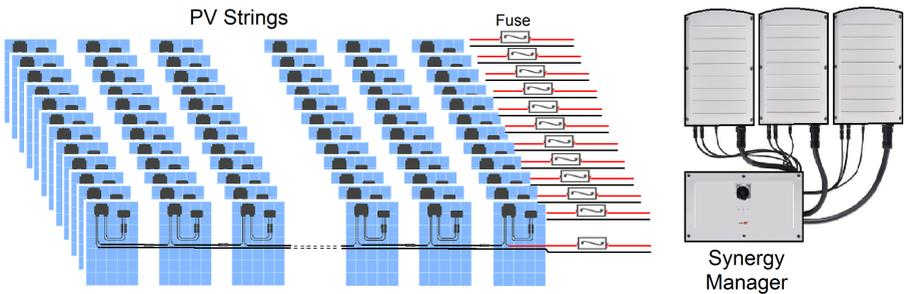
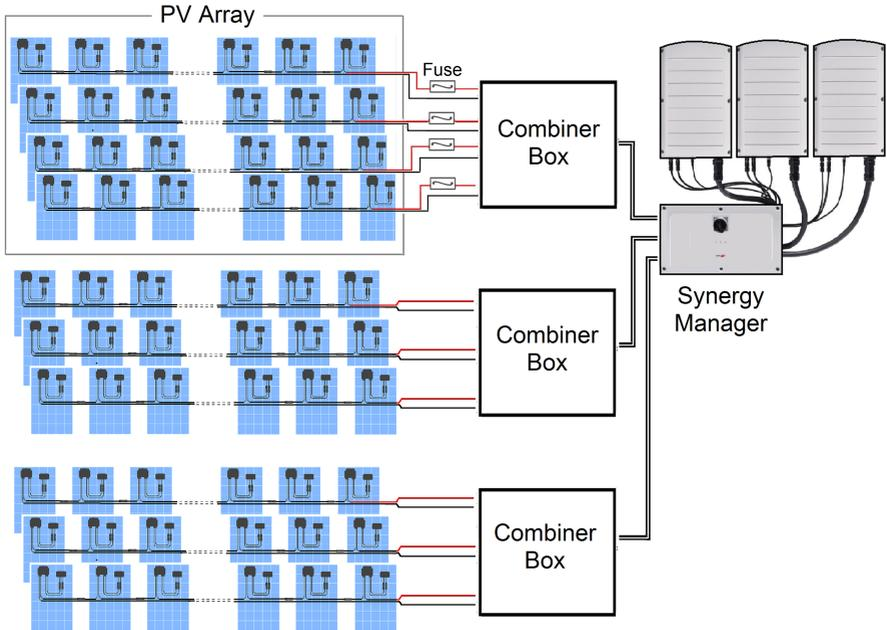

Figure 19: Connection of PV strings to the Synergy Manager
Figure 20: Connection of PV arrays to the Synergy Manager
When installing a system with more than 3 PV strings per a single Synergy Unit (whether connected directly or via a combiner box), fuses are required. In SolarEdge system, 25A fuses must be used (See *Figure 19* and *Figure 20*)
*Figure 19* shows the connection of PV strings and *Figure 20* shows the connection of PV arrays to the Synergy Manager.